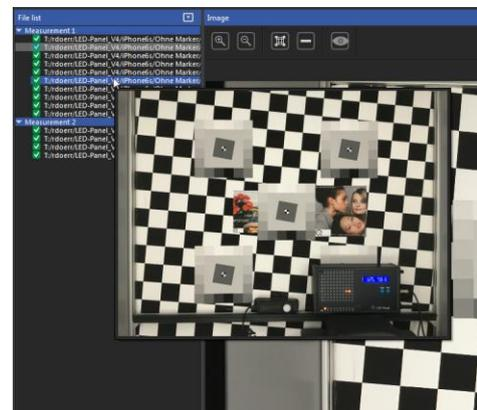

Figure 23
- Image preview: shows a thumbnail image when the mouse hovers over the file list (Figure 23)